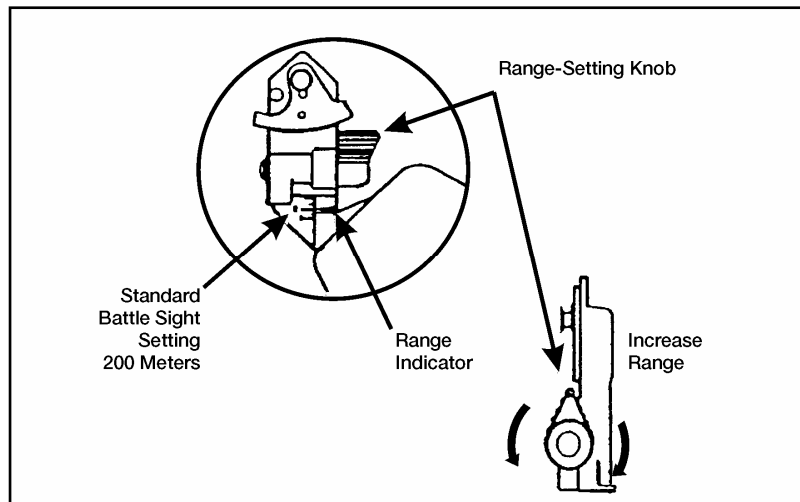

Figure 071-054-0001-6. Adjusting the rear sight
(2) To adjust the rear sight range setting to more than 200 meters, turn the range knob clockwise (toward the muzzle). To decrease the range, turn the range knob counterclockwise (toward the gunner). There is a click at each 50-meter increment; this sound aids you during limited visibility (figure 071-054-0001-6).